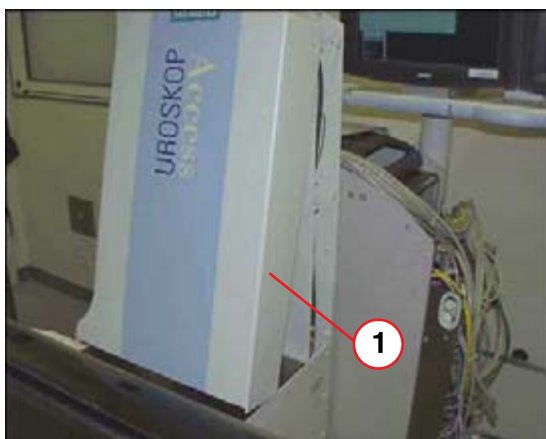

Fig. 95: Tower cover
- Two persons must carefully insert the cover between the cover plate and the tube carriage (1/Fig. 95 / p. 80).